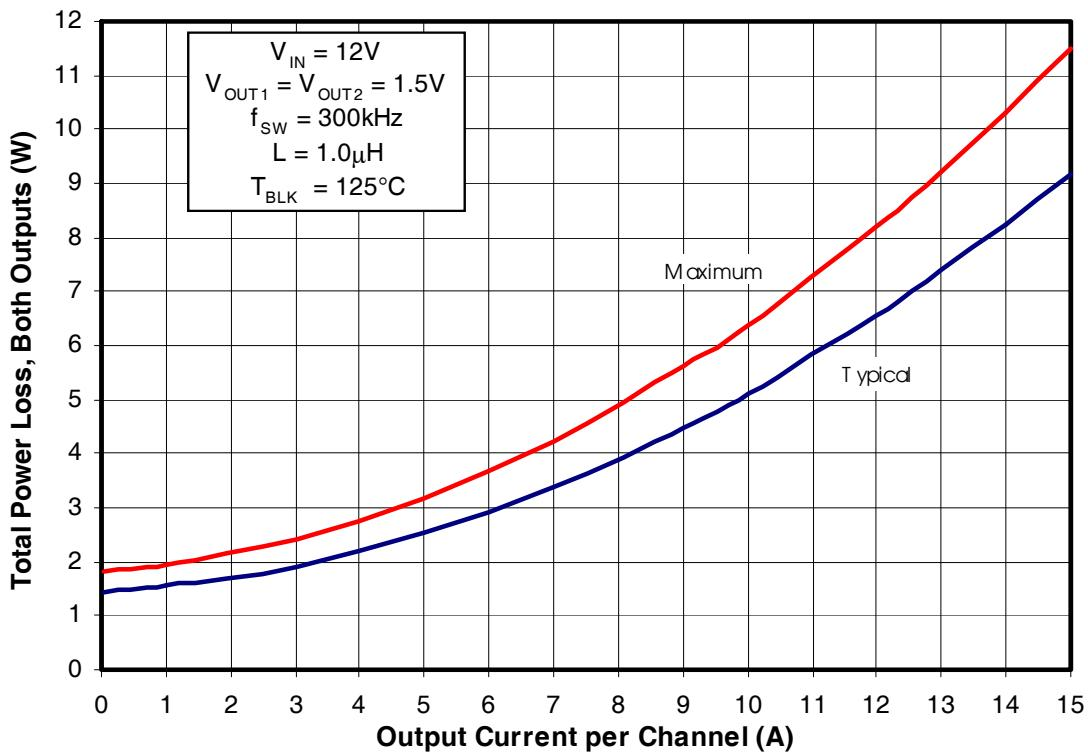
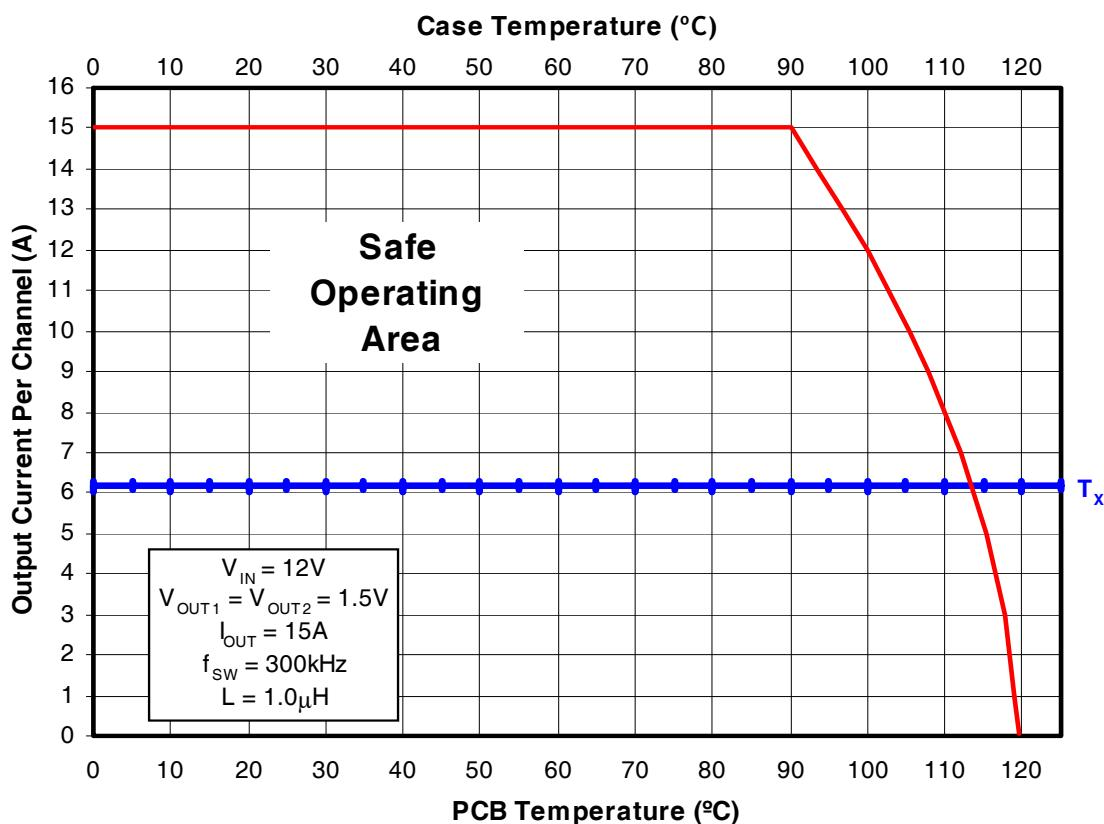
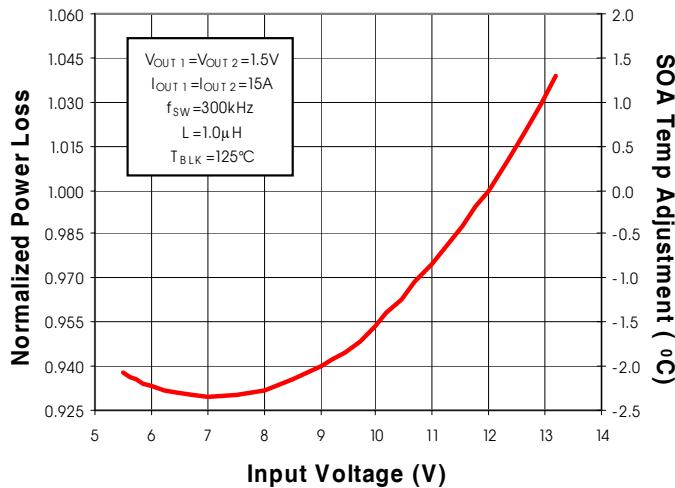

Fig. 2: Power Loss vs. Current
Fig. 3: Safe Operating Area (SOA) vs.  $T_{PCB}$  &  $T_{CASE}$
Fig. 4: Normalized Power Loss vs. VIN
To make adjustments to the power loss curves in Fig. 2, multiply the normalized value obtained from the curves in Figs. 4, 5, 6 or 7 by the value indicated on the power loss curve in Fig. 2. Remember that the power loss in Fig 2. is the power loss for 2 outputs operating with the same output voltage. If differing output voltages are used the initial power loss for each channel needs to be divided by 2. Then if multiple adjustments are required, multiply all of the normalized values together, then multiply that product by the value indicated on the power loss curve in Fig. 2. The resulting product is the final power loss based on all factors. See example no. 1.
To make adjustments to the SOA curve in Fig. 3, determine your maximum PCB Temp & Case Temp at the maximum operating current of each iP1202. Then, add the correction temperature from the normalized curves in Figs. 4, 5, 6 or 7 to the  $T_x$  axis intercept (see procedure no. 2 above) in Fig. 3. When multiple adjustments are required, add all of the temperatures together, then add the sum to the  $T_x$  axis intercept in Fig. 3. See example no. 2.
- Output1 (Fig. 2) Maximum power loss =  $W 8.25/2 = 4.125W$
(Fig. 4) Normalized power loss for input voltage  $\approx 0.93$
- Output2 (Fig. 2) Maximum power loss =  $6.4W / 2 = 3.2W$
- Output1 (Fig. 4) Normalized SOA Temperature for input voltage  $\approx -2.3^{\circ}\text{C}$
- Output2 (Fig. 4) Normalized SOA Temperature for input voltage  $\approx -2.3^{\circ}\text{C}$